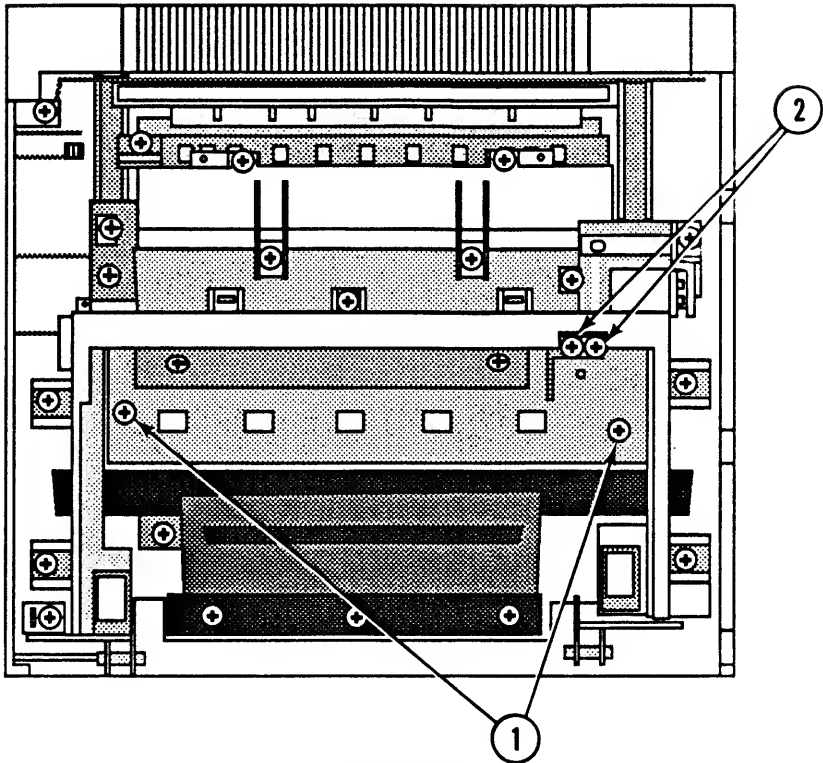

FIGURE 80
3. Remove the two Phillips screws (Figure 80, #1) that secure the preconditioning exposure assembly to the top cover.
4. Remove the two Phillips screws (Figure 80, #2) that secure the preconditioning exposure assembly to the contact arm.